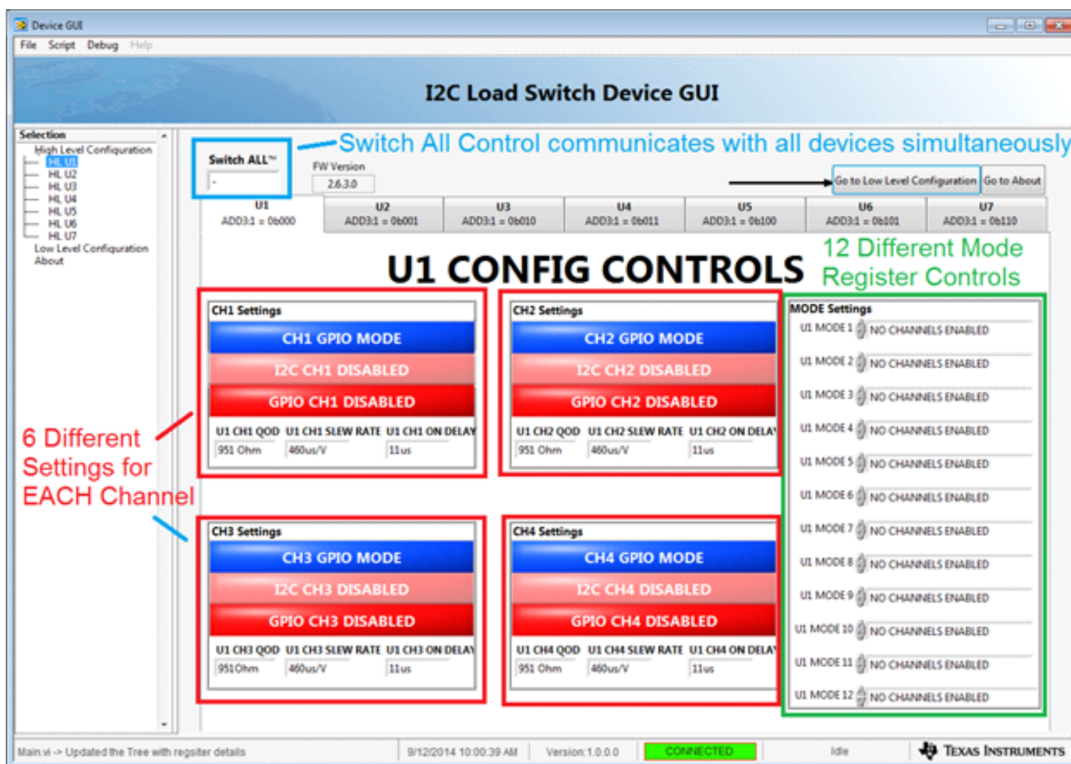

Figure 6. Description of the Different Control in the GUI
- (A) The HL U1 – U7 Tabs contain high level controls that set the device to specific register settings. Each change in the control value results in a register write to the device.
- (B) There are 6 different controls for each channel on the device
- (C) The GUI also provides Mode Register Controls for each device
- (D) The SwitchALL™ control communicates with all devices simultaneously.
- (E) See Figure 6 showing the different controls (SwitchALL™, Channel Controls, MODE Registers)